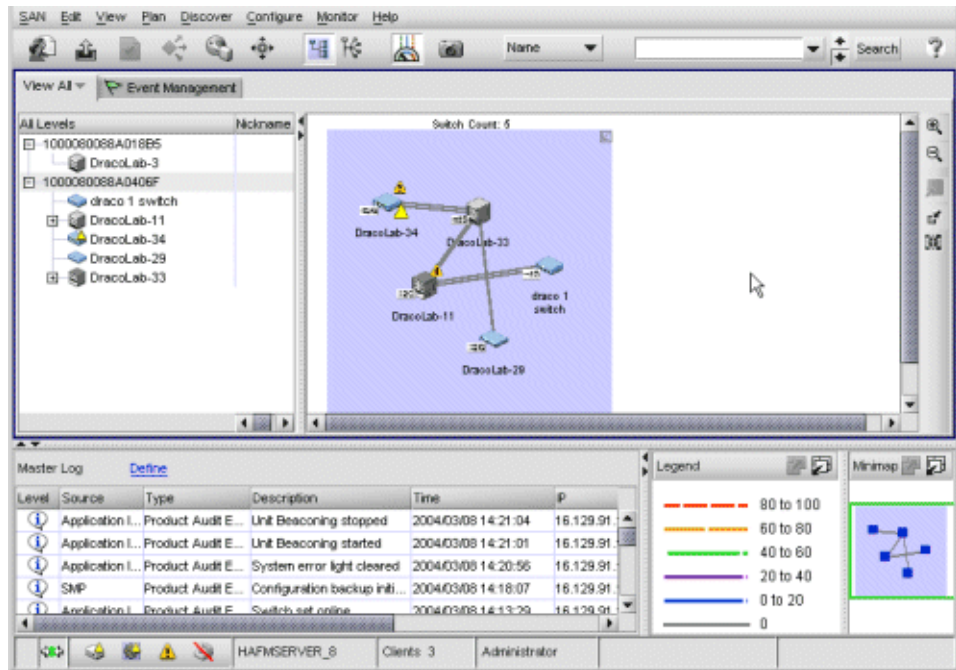

Figure 45: View All - HAFM 8 window
5. Click **Login**. The View All - HAFM 8 window displays, as shown in Figure 45.